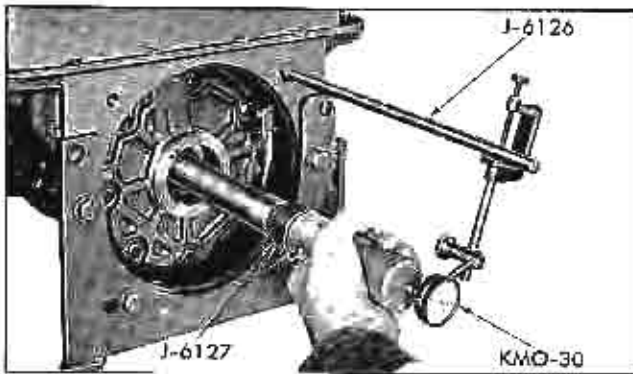

Fig. 52 Measuring Mainshaft End Play
3. Install J-8001 dial indicator (Fig. 52).